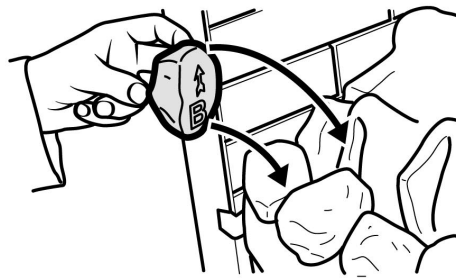

Figure 7. Second row "Coal B"
9. Hold coal 'B' upright with the arrow pointing to the top. Locate coal 'B' as shown in figure 7.